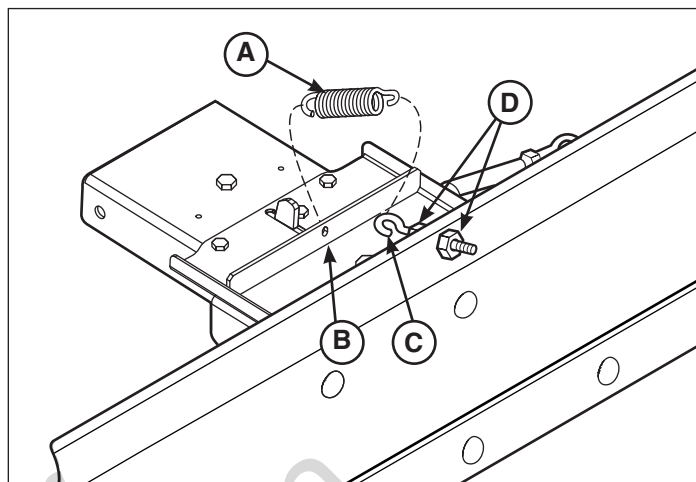

Figure 9
4. Insert the large loop of spring (A, Figure 9) through the hole (B) in hitch lift assembly and then the small loop through eyebolt (C).
5. Tighten the hex nuts (D) to adjust and apply tension to the spring.